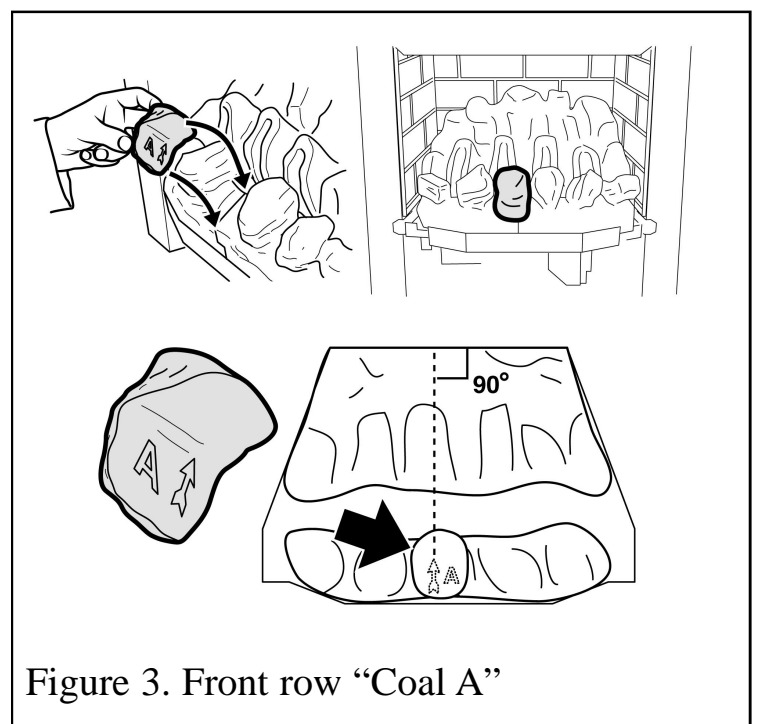

Figure 3. Front row "Coal A"
5. Hold coal 'A' upright with the arrow pointing to the top. Locate coal 'A' as shown in figure 3.